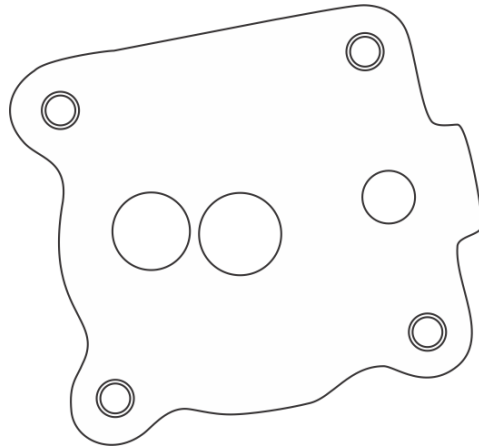

Figure 1. Accessory Case Oil Filter Pad
3. Visually inspect the oil filter mounting pad to confirm that the profile is the same as depicted in Figure 1. If your mounting pad does not conform to this figure, the CMI angled oil filter adapter may not be used.